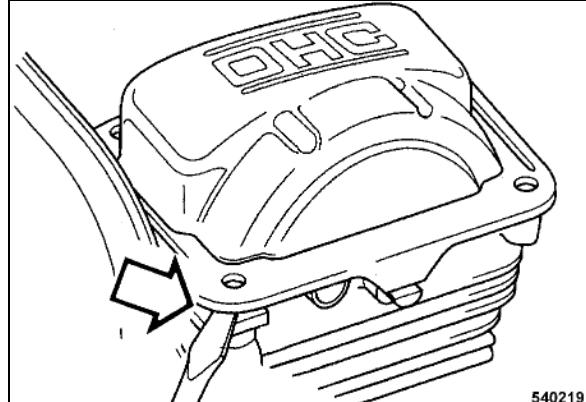

Fig. 45 □
- Insert the screw driver into the recess (Fig. 45) and take the cylinder head cover carefully off.